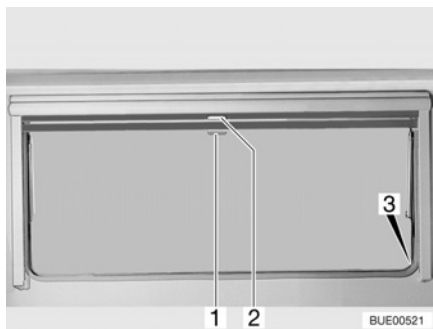

Fig. 28 Hinged window
- Pull blind at the handle (Fig. 28,2) downwards. If the blind is to be completely closed, it is suspended into the locking devices (Fig. 28,3) situated on both sides of the window frame.
- If the blind is completely closed: Press handle (Fig. 28,2) downwards and, at the same time, tilt it slightly inward. The blind can be taken out of the locking devices situated on both sides of the window frame.
- If the blind is in an intermediate position: Pull the handle (Fig. 28,2) slightly downwards until the locking device releases.
- Pull insect screen at the handle (Fig. 28,1) down and hang it into the locking devices (Fig. 28,3) situated on both sides of the window frame.
- Press handle (Fig. 28,1) downwards and, at the same time, tilt it slightly inward. The insect screen can be taken out of the locking devices situated on both sides of the window frame.